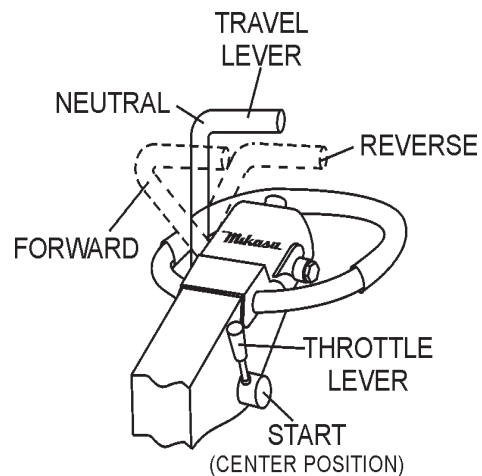

Figure 16. Travel/Throttle Lever (Start Positions)
2. Place the **throttle lever** (Figure 16) in the **START** position (center).
1. Return the throttle lever to the **START** position (Figure 16). Allow the machine to cool down for 2 to 3 minutes.